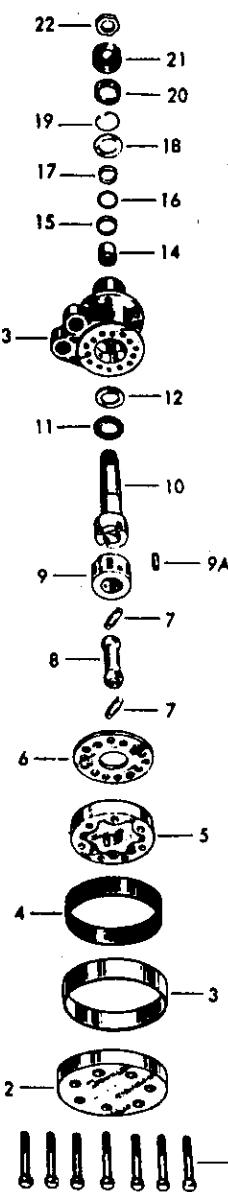
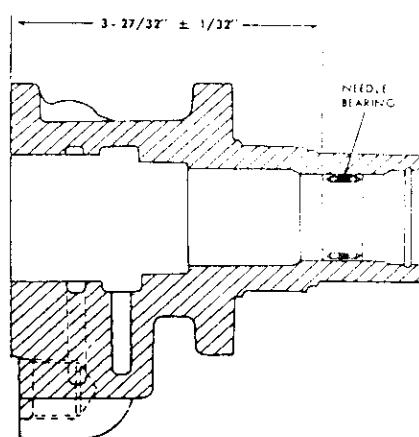

Fig. 21—Exploded view of power steering hand pump assembly.
Fig. 23—When renewing needle bearing in pump body, install same to dimension shown.
31. OVERHAUL MANUAL (HAND PUMP). Remove the manual pump as outlined in paragraph 30. Clear fluid from unit by rotating steering wheel (input) shaft back and forth several times. Place unit in a soft jawed vise with end plate on top side, then remove end plate retaining cap screws and lift off end plate (2—Fig. 21).
When reassembling, use all new seals and back-up washers. All parts, except those noted below, are installed dry. Reassemble as follows: If needle bearing (14—Fig. 21) was removed, lubricate with IH Hy-Tran fluid, install from pumping element end of body and press bearing into bore until inside end measures 3-13/16 to 3-7/8 inches from pumping element end of body as shown in Fig. 23. Lubricate thrust bearing assembly with IH Hy-Tran fluid and install assembly on input shaft with race on top side. Install input shaft and bearing assembly in body and check for free rotation. Install a link pin in one end of the drive link, then install drive link in input shaft by engaging the flats